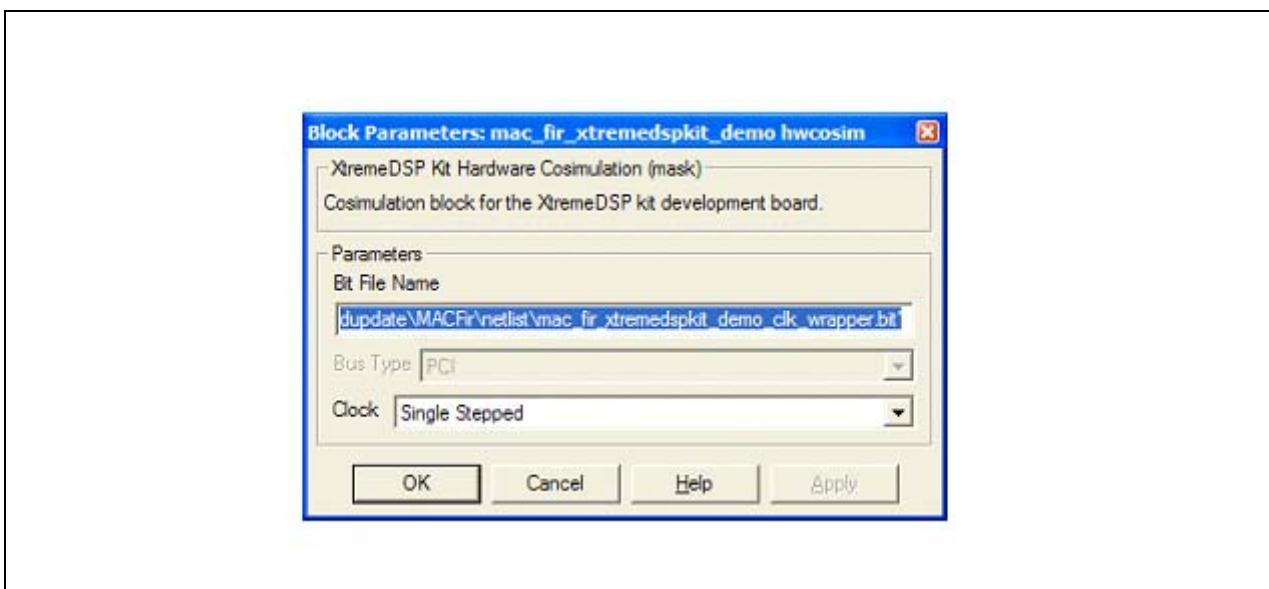

Figure 132: Hwcosim Parameters
5. Double click on the 'mac_fir_xtremedspkit_demo_hwcosim' block to bring up the control dialog shown in Figure 132 on page 207.